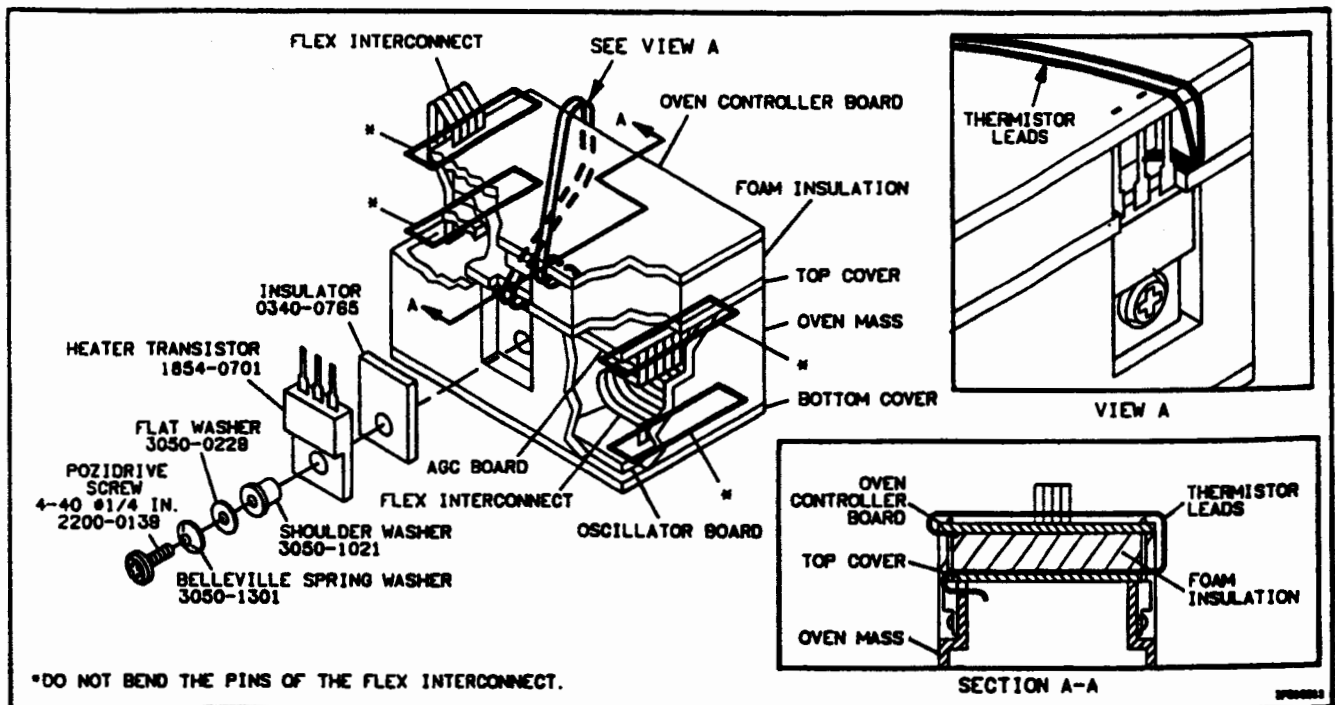

Figure 8-13a. OSCILLATOR ASSEMBLY
d. Thermistor Lead Routing. When assembling oven controller board into oven mass, thermistor leads should be routed between oven mass and foam wafer as shown in figure 8-13a, section A-A.
board, foam wafer, and oven mass are assembled they should appear as in view A of figure 8-13a.
- e. Oven heater transistors Q7 and Q8: Install each transistor as shown in Figure 8-13a. Torque to 4 lbf.in. (.452 N.m.) using hand torque screwdriver.